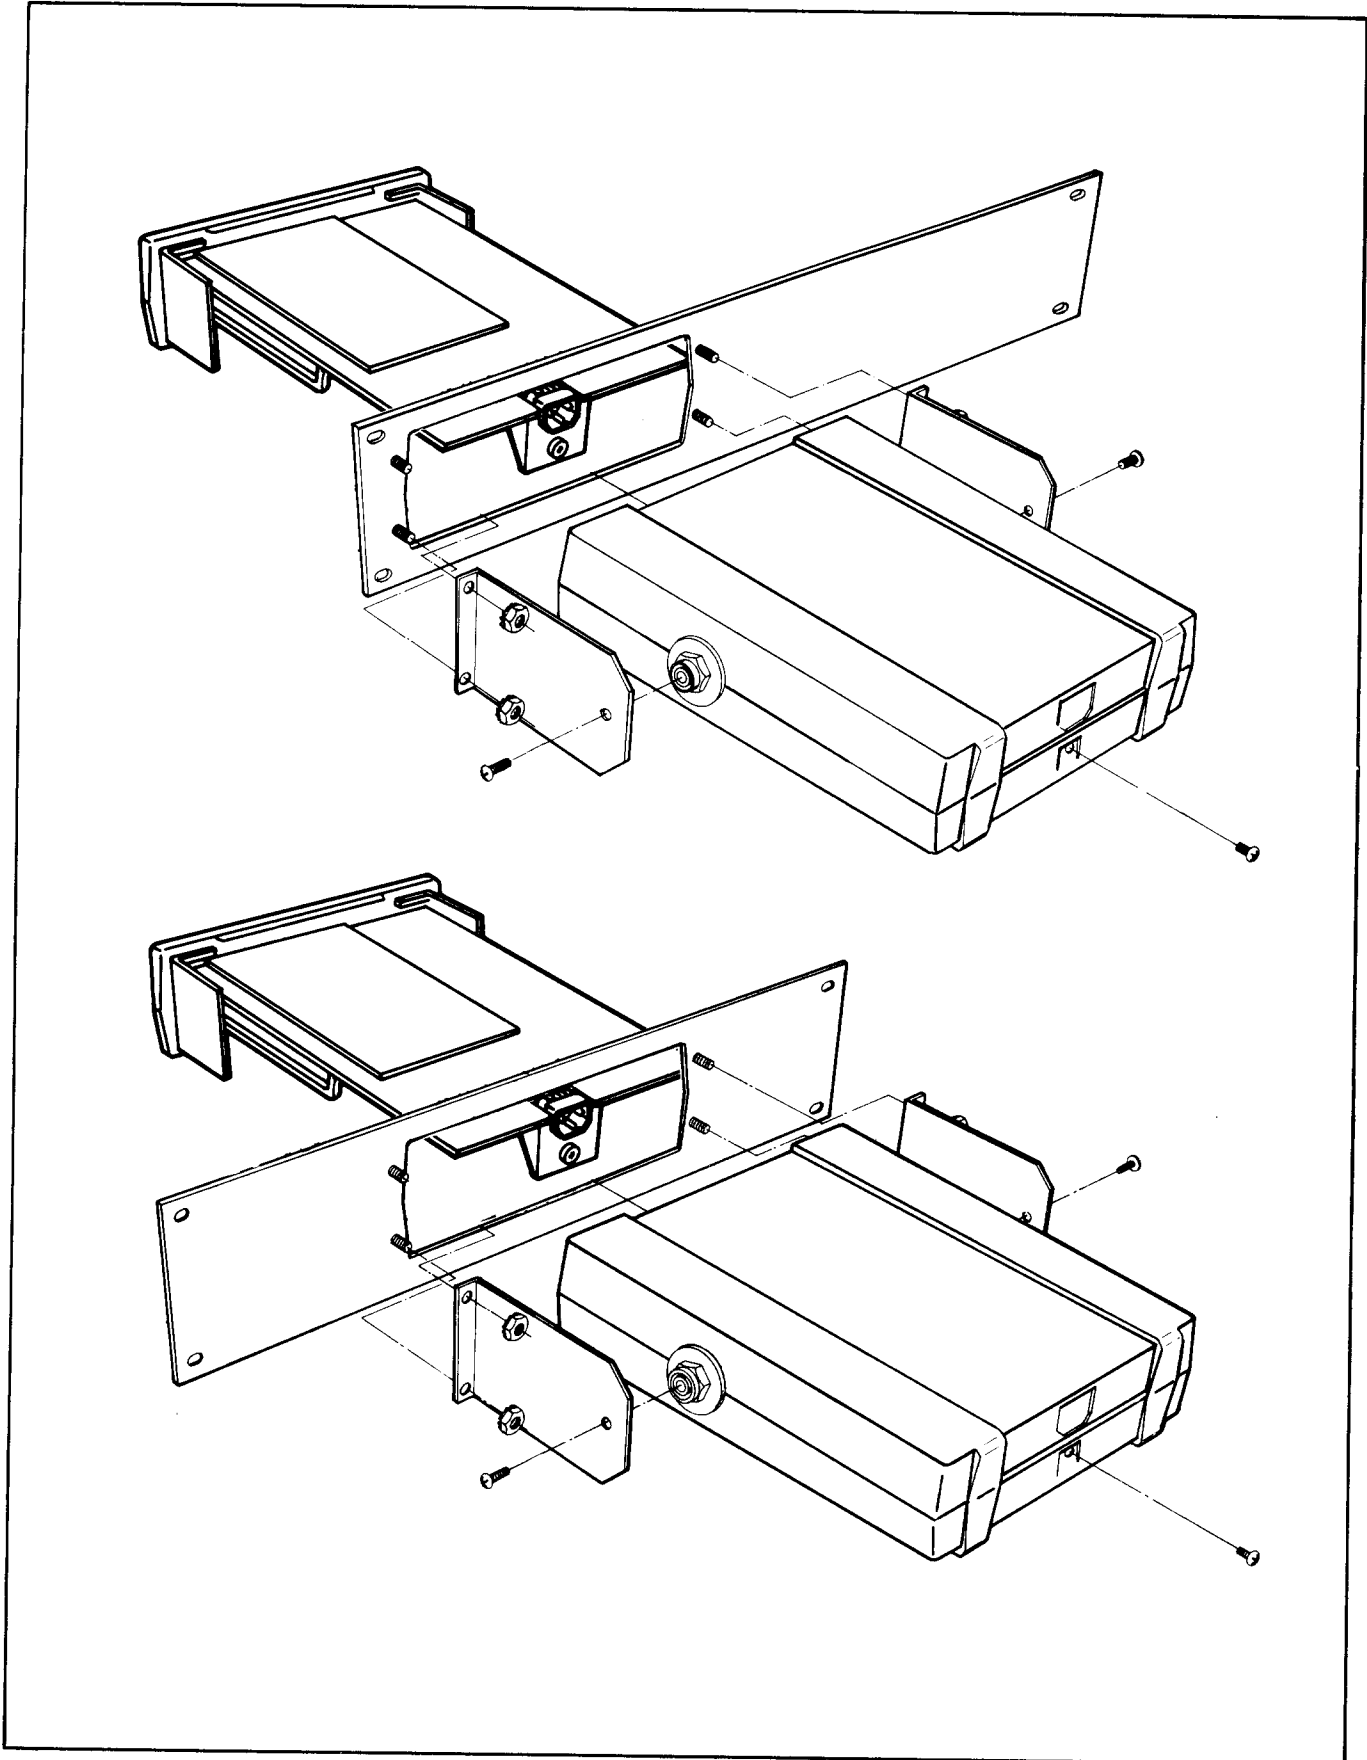

Figure 600-3. Rack Mounting Kits, Offset and Center Mounting
3. Install the side mounting brackets, as shown in Figure 600-3 and secure them to the mounting panel using the nuts provided.